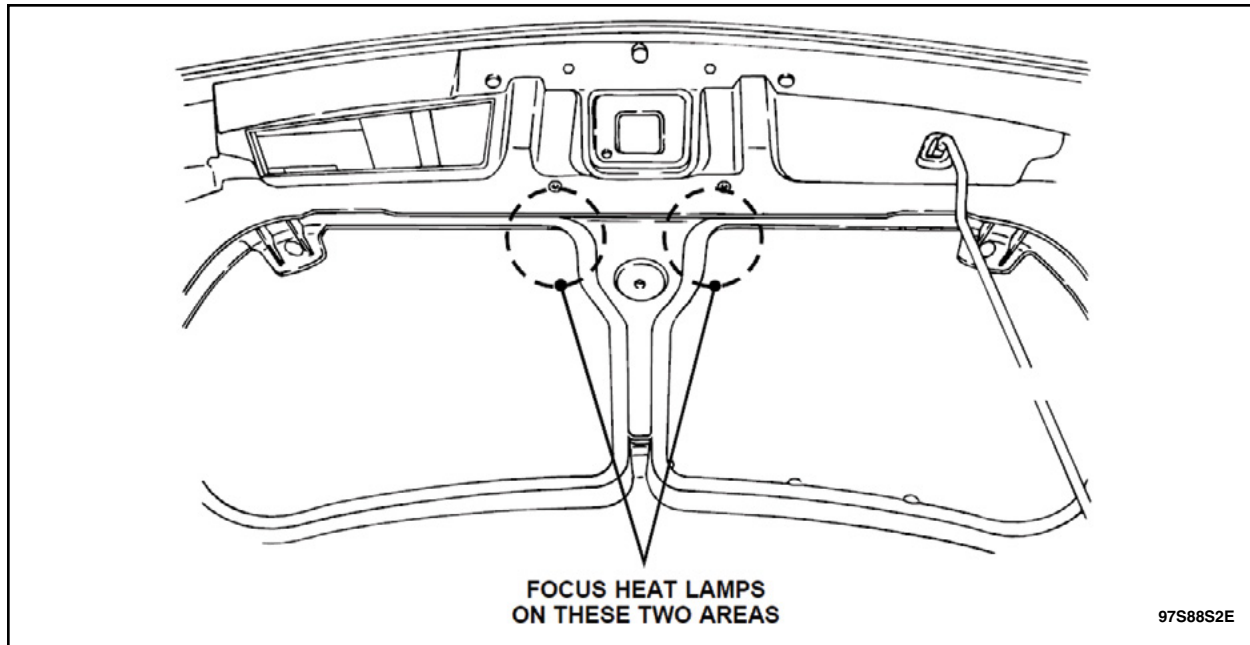

FIGURE 5
4. Aim the heat lamps so that the heat is centered on the curved section of the lower hood panel where the adhesive is applied. See Figure 5.